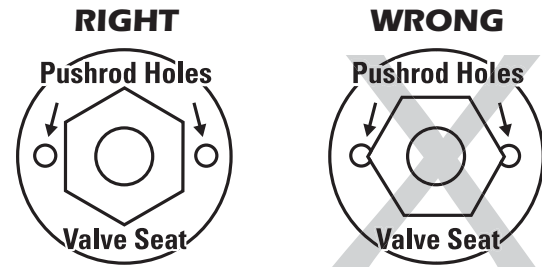

Figure 10
**Caution:** Be sure hexagon corners of seat do not protrude into pushrod holes (see Figure 10).